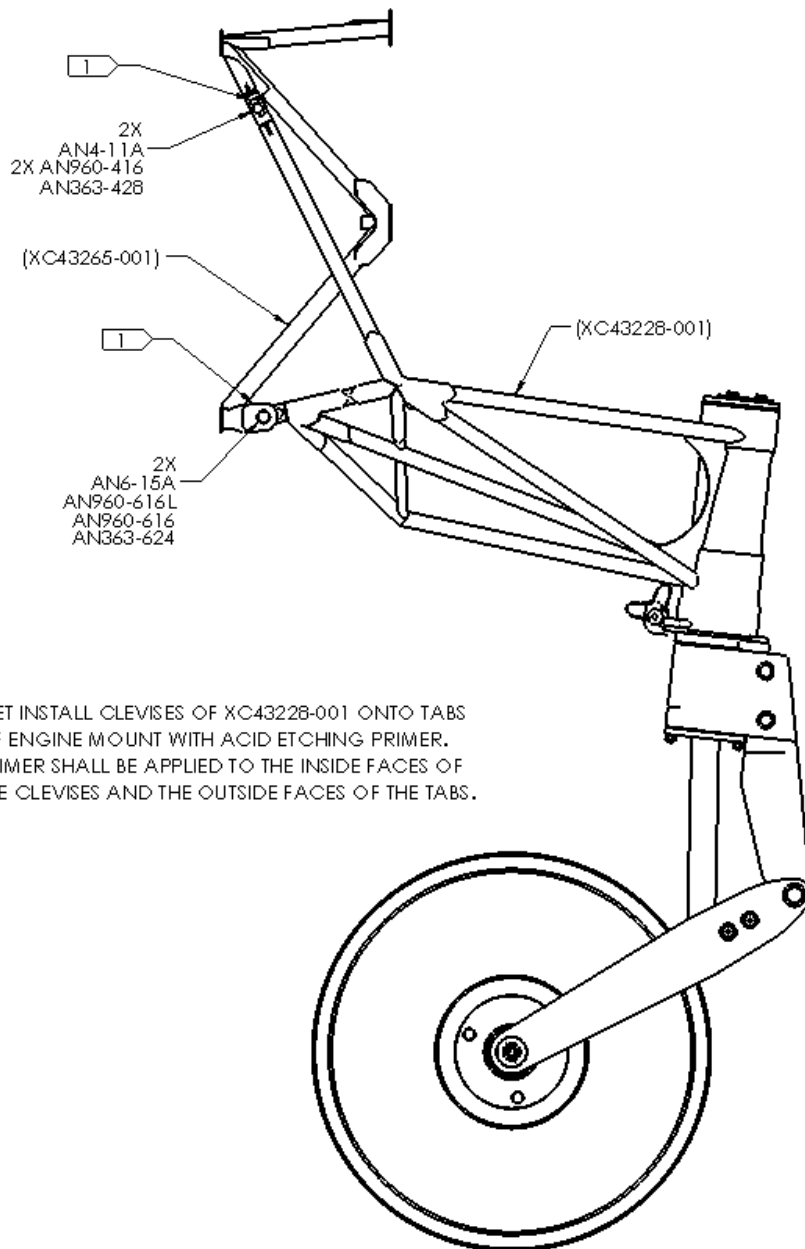

Figure 15 – Nose Gear Installation
26. Install the preassembled nose gear assembly onto the tabs on the engine mount (XC43265-001) in accordance with Figure 15 (rearranging hoses and wiring as necessary). The tabs and clevises should be coated with wet primer during installation. When installing, the nose gear assembly will need to be tipped forward slightly and brought upwards so the lower clevises and tabs are first to engage. Some tapping with a light deadblow or soft face hammer will likely be required to move the clevises into the tabs. Once the lower holes are aligned, pin in place, then tip the nose gear assembly up to align the upper clevises and tabs. Install hardware.